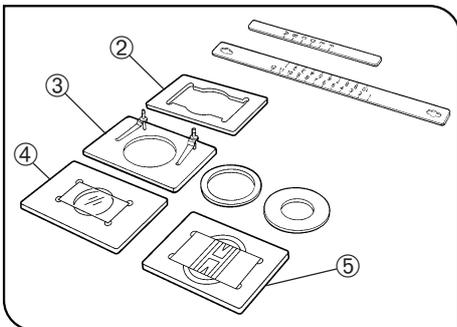

Fig. 10
- Ⓞ To secure other vessels than microtiter plates, various optional holders are available. A Terasaki plate holder ② is available for holding Terasaki plates (72-well, 60-well). When using this, it is necessary to replace the stage scales with those provided with the plate holder. Petri dish holder ③ is available for 35 mm, 54 mm and 65 mm diameter petri dishes, a slide glass holder ④ is available for holding slide glass, and the IX2-BCTP* ⑤ is available for a blood cell test plate holder. (Fig. 10)